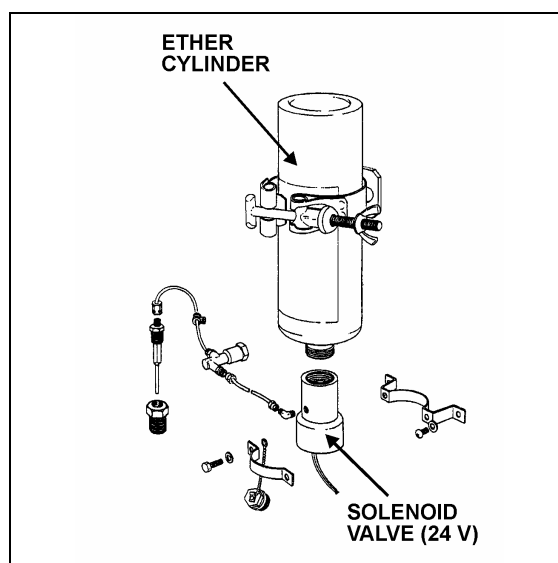

FIGURE 19: COLD STARTING AID
1. Check cylinder for hand tightness and fuel supply (Fig. 19). Empty cylinder weight is approximately 17 oz (480 g); full cylinder weight is approximately 35 oz (990 g). If cylinder is empty, replace it. Before replacing cylinder, install new valve gasket in solenoid valve.